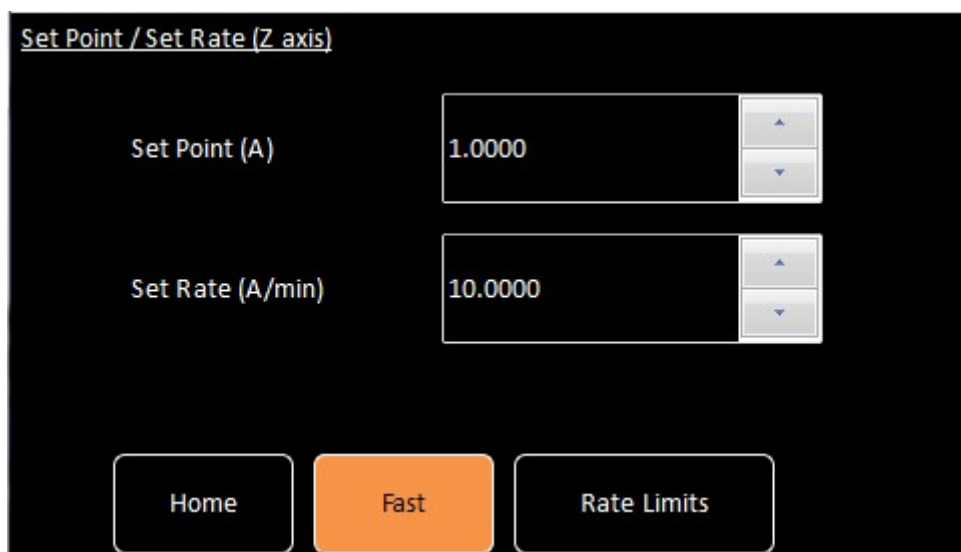

Figure 14. Set Point / Set Rate screen
To energise the magnet it is necessary to enter a set point (target current or target field) and a set ramp rate at which to ramp the magnet current. To do this, tap on the "Current (A)" display of the Home page (Note: if the Home page is in "Tesla" mode, tap on the "Field (T)" display). This will bring up the "Set Point / Set Rate" page show below (Figure 14).
The Fast/Slow button on the “Set Point / Set Rate” page (Figure 14) defines whether fast magnet rate limits, or slow magnet rate limits will be applied. In general fast rate limits should be used. The slow rates are usually only used for training magnets or after a major quench.